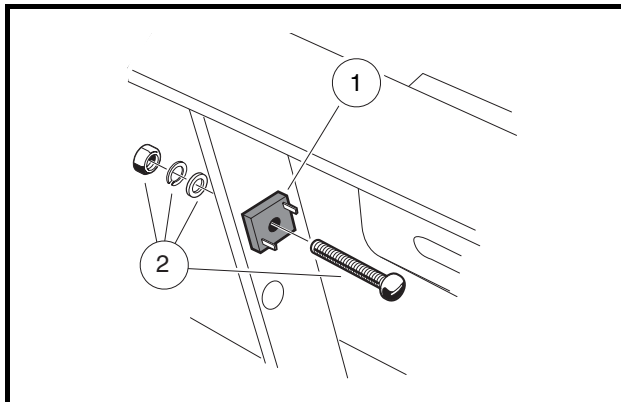

Figure 14-30 Voltage Limiter
4. Disconnect wires from the voltage limiter (1). Do not allow wires to touch (**Figure 14-30, Page 14-28**).
1. Mount the voltage limiter to the frame using the mounting hardware and tighten to 25 in-lb (2.8 N·m) (**Figure 14-30, Page 14-28**).